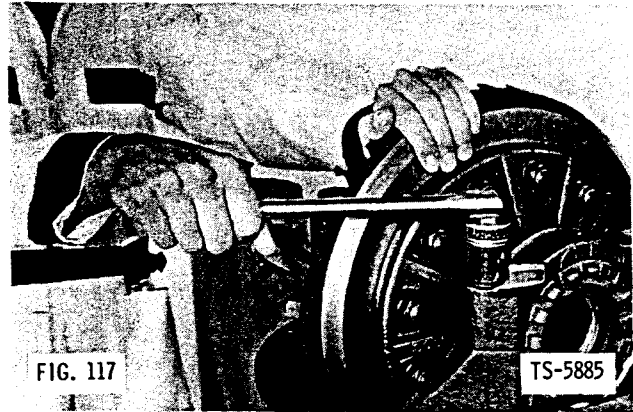

FIG. 117
9. Position bearing caps on bearings and nuts, making sure matchmarks made during disassembly are properly aligned. Install bearing cap bolts (Fig. 117) and tighten until snug, but do not fully torque.